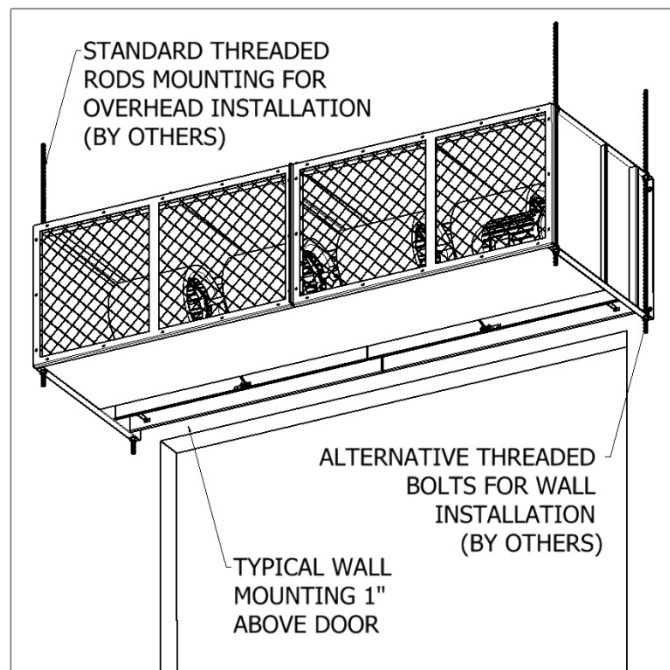

FIG. 1
4. Mount the product such that the discharge is 1" above the opening and all obstacles. (FIG. 1)
5. Use four (4) threaded rods for overhead installation or four (4) threaded bolts for wall installation. All hardware is field provided by others. (FIG. 1)